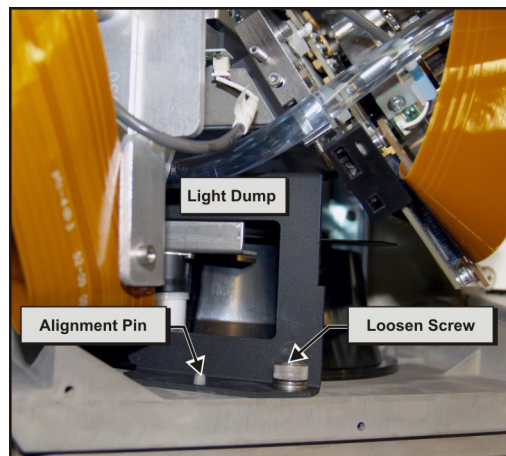

Figure 5-43 Remove Light Dump
4. Loosen the captive screw securing the light dump (**Figure 5-43**).